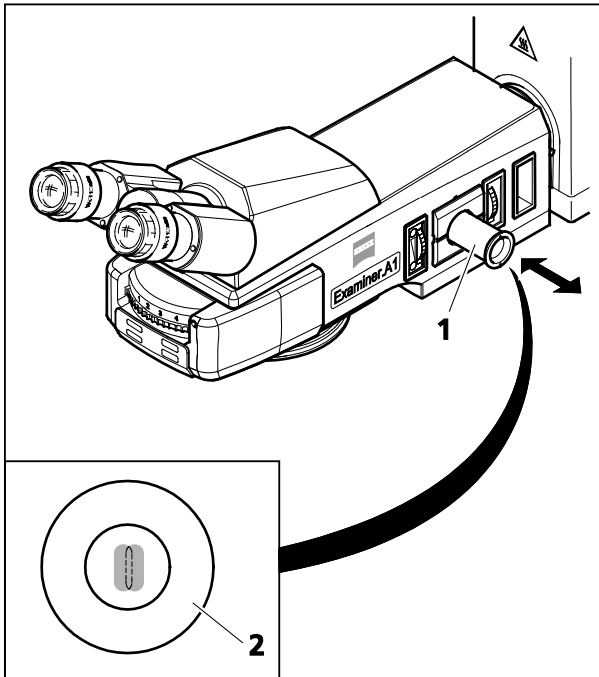
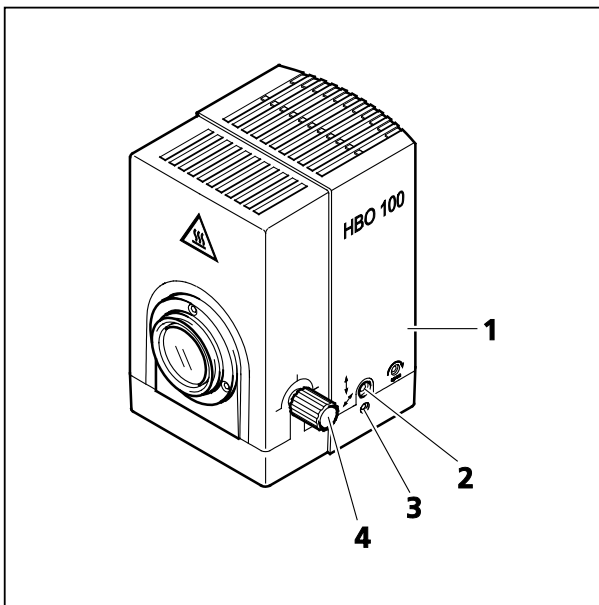
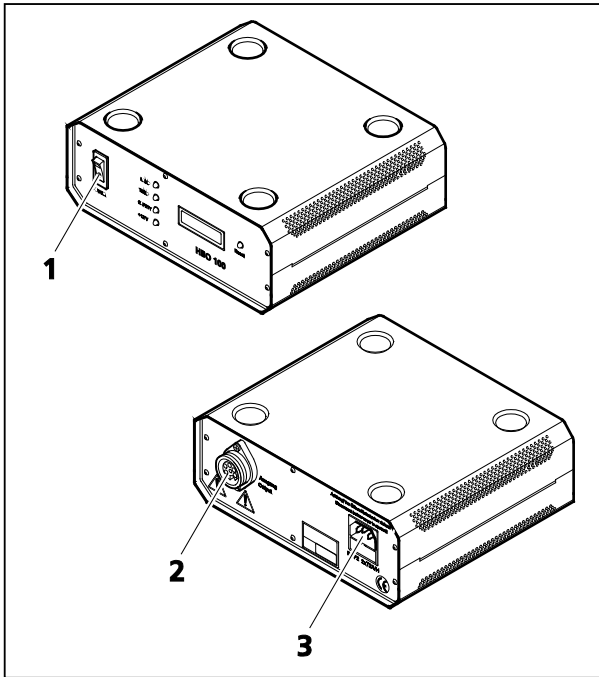

Figure 3-27 Adjusting aid
Figure 3-28 Adjusting the HBO 100
Figure 3-31 HBO 100 W power supply unit (front and rear sides)
(1) Axio Examiner.A1 with adjusting aid:
- Switch on the HBO 100 illuminator (Figure 3-28/1) using the switch at the HBO 100 W transformer (Figure 3-31/1), and allow it to run up to operating temperature.
- Pull out the adjusting aid (Figure 3-27/1) at the microscope stand. The brighter focal spot of the HBO 103 W/2 lamp and its somewhat darker mirror image will appear in the adjusting aid's black glass window.
- Turn the knurled knob (Figure 3-28/4) to focus the brighter focal spot using the collector adjustment.
- Turn the adjusting screws (Figure 3-28/2 and 3) to set the darker focal spot (burner mirror image) by analogy to the focal spot image (Figure 3-27/2) within the inscribed adjusting circle.
(2) Axio Examiner.D1/.Z1 and Axio Examiner.A1 without adjusting aid:
- Connect the multipolar illuminator plug of the HBO 100 illuminator to the appliance bushing (Figure 3-31/2) of the HBO 100 W transformer, and secure it by a retaining ring.
- Connect the HBO 100 W transformer's AC power socket (Figure 3-31/3) to a mains outlet.
- Use the power switch (Figure 3-31/1) to switch the HBO 100 W power supply unit either on or off.